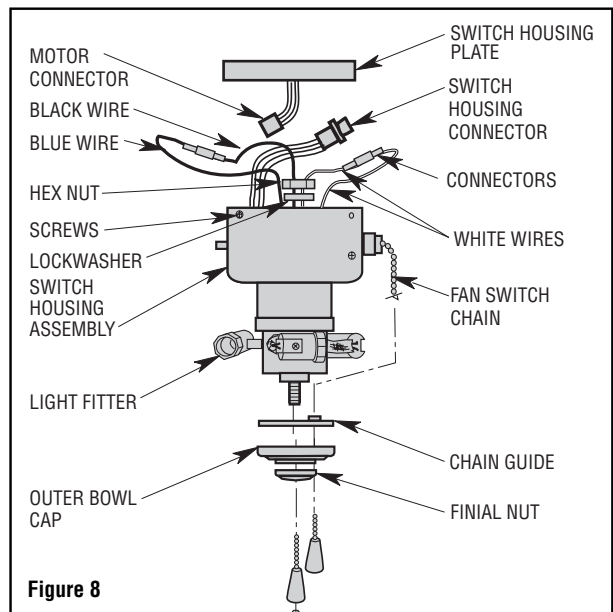

Figure 8
15. Remove and retain the lockwasher and nut from the light fitter. Insert the black and white wires from the light fitter through the center hole in the switch housing assembly. Thread the switch housing assembly onto the light fitter. Reinstall the lockwasher and nut and tighten securely (Figure 8).
16. Connect the white wire connector from the switch housing assembly to the white wire connector of the light fitter. Connect the blue wire connector from the switch housing assembly to the black wire of the light fitter (Figure 8).